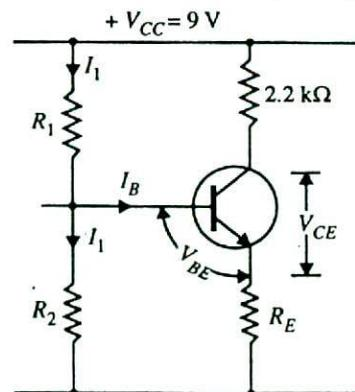

Fig. 11.18
**Example 11.15.** In the circuit shown in Fig. 11.18, the operating point is chosen such that  $I_C = 2\text{mA}$ ,  $V_{CE} = 3\text{V}$ . If  $R_C = 2.2\text{k}\Omega$ ,  $V_{CC} = 9\text{V}$  and  $\beta = 50$ , determine the values of  $R_1$ ,  $R_2$  and  $R_E$ . Take  $V_{BE} = 0.3\text{V}$  and  $I_1 = 10I_B$ .